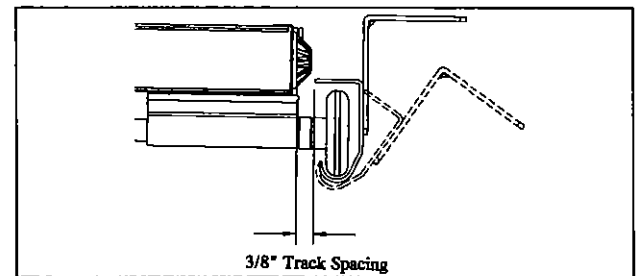
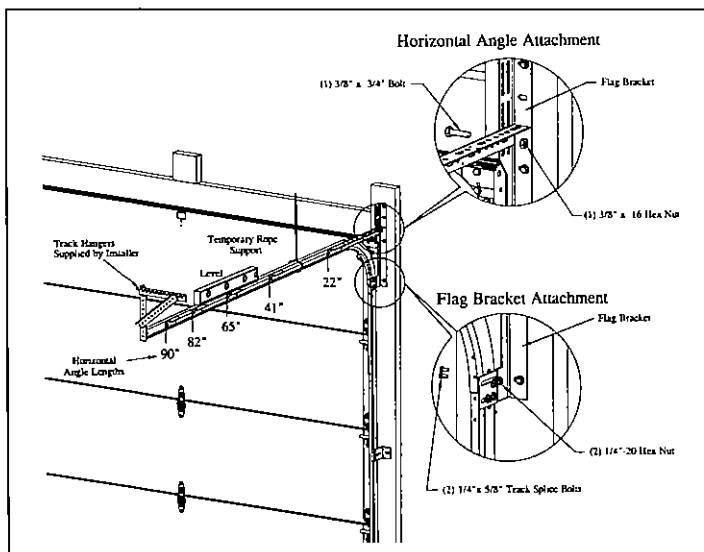

FIGURE 10
FIGURE 13
Positioning Track on Door — Place the vertical track with jamb brackets attached over the rollers (Figure 10). **Note: Maintain 3/8" space between door edge and vertical track, tops of vertical track must be level with each other.** (To determine, measure from top of tracks to top of door. If not level, raise track but not higher than bottom rollers.) Vertical tracks must be plumb.
Flag Bracket Attachment — Place curved end of horizontal track assembly over the roller in the top fixture and attach to flag bracket with (2) 1/4" x 5/8" track splice bolts and (2) 1/4"-20 hex nuts (Figure 13). Temporarily support back end of the horizontal track using a rope or wire from the roof trusses to support back end (Figure 13).
Horizontal Assembly Attachment — Attach the end of the horizontal angle to the flag bracket with (1) 3/8" x 3/4" bolt and 3/8"-16 hex nut (Figure 13).
Track Hanger Installation — Replace support rope or wire with metal angle hangers (supplied by installer—minimum 14 ga.) (Figure 13). **Note:** Make sure track is level and square with opening (Figure 13). Make sure distance between track and door is the same at the bottom of the vertical (Figure 10), at curve of horizontal and back of horizontal. Adjustment to track position may need to be made later, after the door is opened to maintain proper spacing.